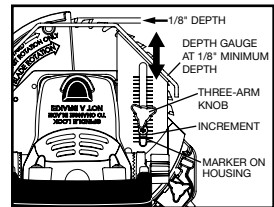

Figure 7
- To adjust the depth gauge, loosen the depth gauge three-arm knob. Push the gauge all the way out. A marker on the housing aligns with the shallowest depth gauge increment at 1/8". The gauge includes 13 increments at approximately 1/8" each (Figure 7).